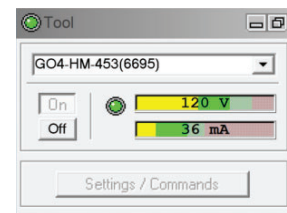

Figure 4-1 Tool panel
3. ☐ In the **Tool** panel switch on the tool (click **On** button). Verify that the voltage indicator shows a valid green level (shown as 120 V in **Figure 4-1**). The current indicator should also be green and greater than 10 mA (shown as 36 mA in **Figure 4-1**). The system goes through a short initialization sequence which sets the default parameters and communication settings held in the tool configuration file. The configuration returned by the tool is also checked during this procedure (Setup tool communication as explained in **Chapters 4.2 and 4.3**).